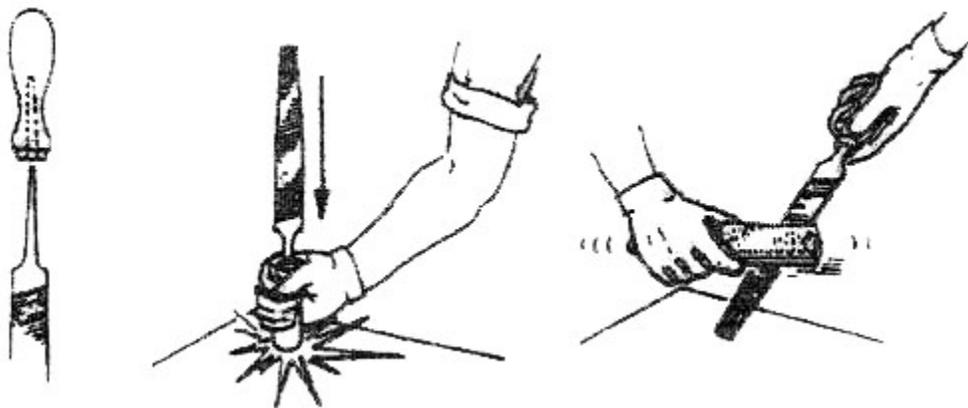
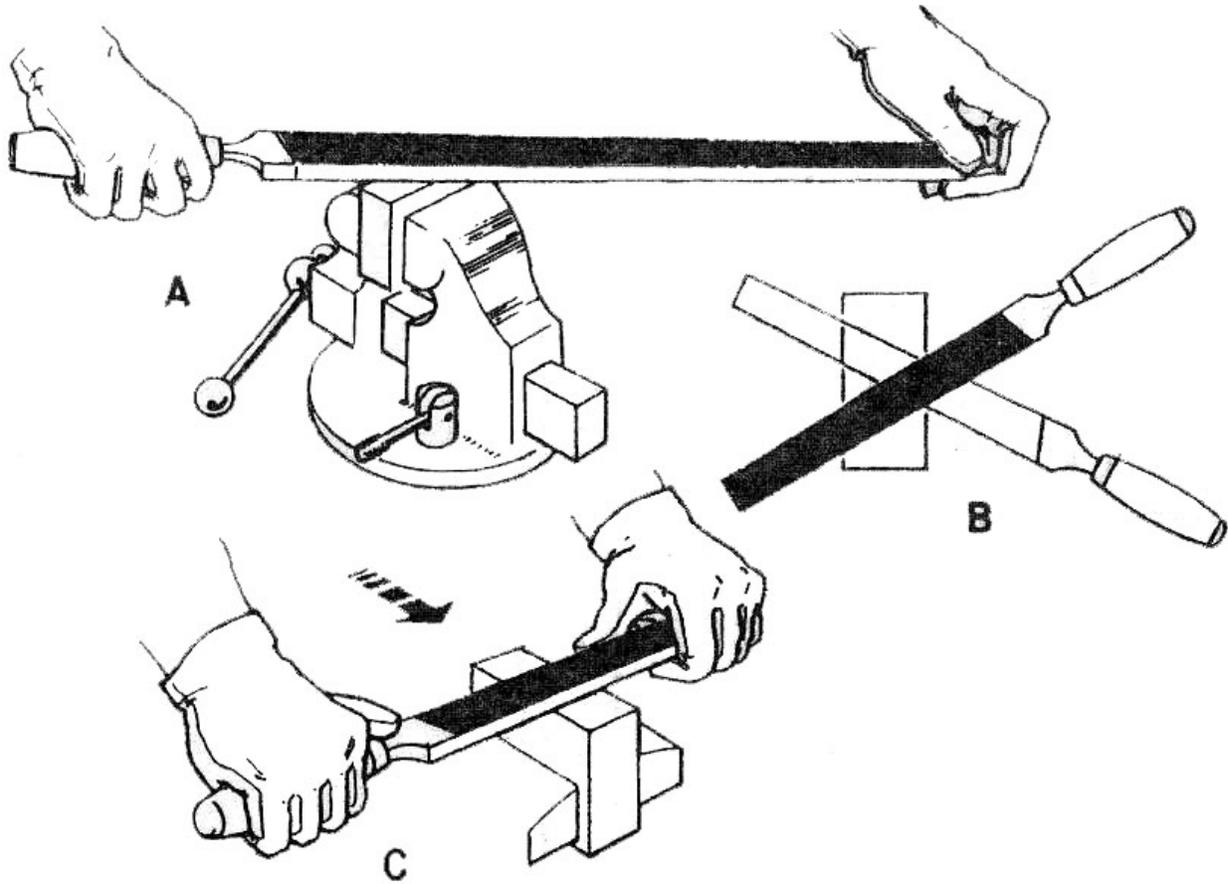

Figure 8-4. Use and Care of Files
Figure 8-5. Filing Techniques
2. To put a handle on a file: First, make sure the handle is the right size, and that the hole is large enough for the tang. Insert the tang into the hole in the handle then tap the back end of the handle on the bench. Make sure the handle is on straight. (See Figure 8-4.)
The teeth are set at an angle across the face of the file and slanting toward the tip of the file. (See Figure 8-4.) On a single-cut file, the teeth are cut at an angle of 65 to 85 degrees to the centerline. On double-cut files the angle of the first set of teeth usually is 40 to 50 degrees and the crossing teeth 70 to 80 degrees. Proper methods of holding a file are shown in Figure 8-5.
5. Never use a file after the teeth become "choked" with particles of metal. Occasional bumping of the file against the bench will jar loose the filings which stick in the teeth. If the teeth get too loaded, it should be cleaned with a file card. This is a brush with short, stiff, wire bristles. (See Figure 8-4.)